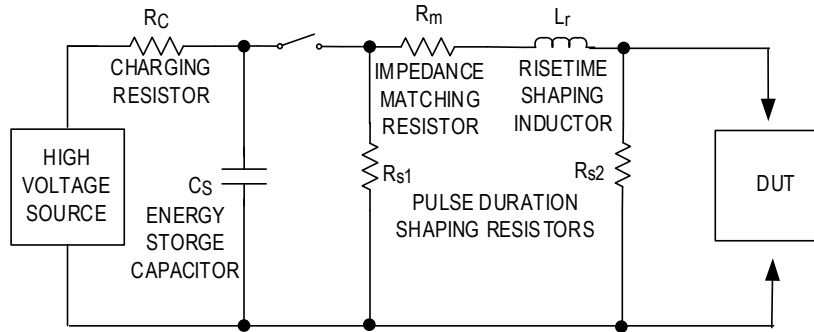

Figure 40. IEC 61000-4-5 Test Model
- Surge test model shown in Figure 40, and surge voltage waveform shown in Figure 41.